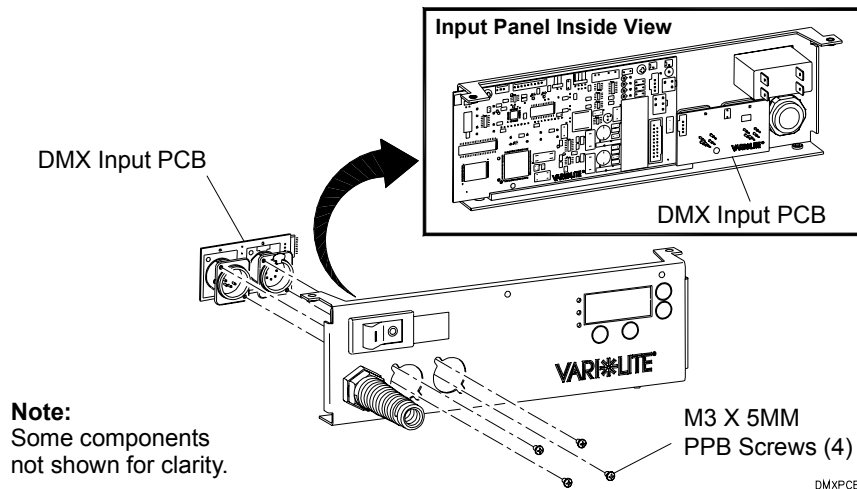

Figure 2-29: DMX Input PCB Assembly Replacement
- Step 4. At connector panel, remove four M3 X 5MM PPB screws which secure DMX input PCB assembly to connector panel, and remove PCB assembly (Figure 2-29).